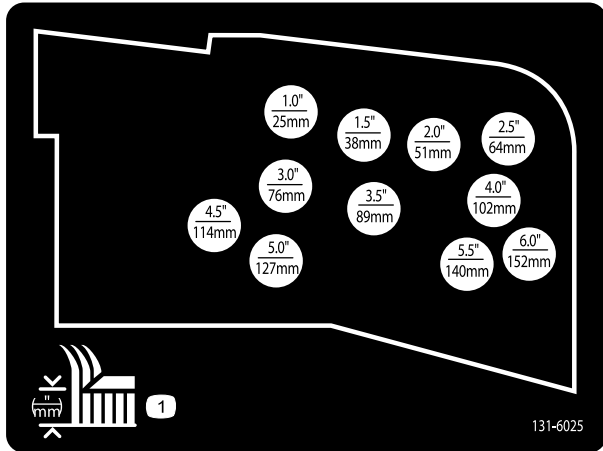

Figure 24
9. Mount the height-of-cut chains to the desired height-of-cut hole with the clevis pin and hairpin cotter (Figure 24).